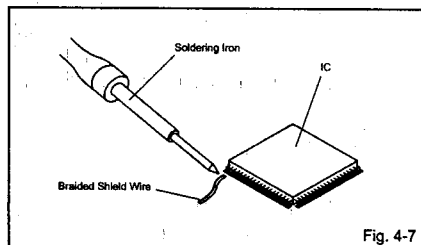

Fig. 4-7
3. Absorb the solder left on the lead using the Braided Shield Wire. (Refer to Fig. 4-7.)